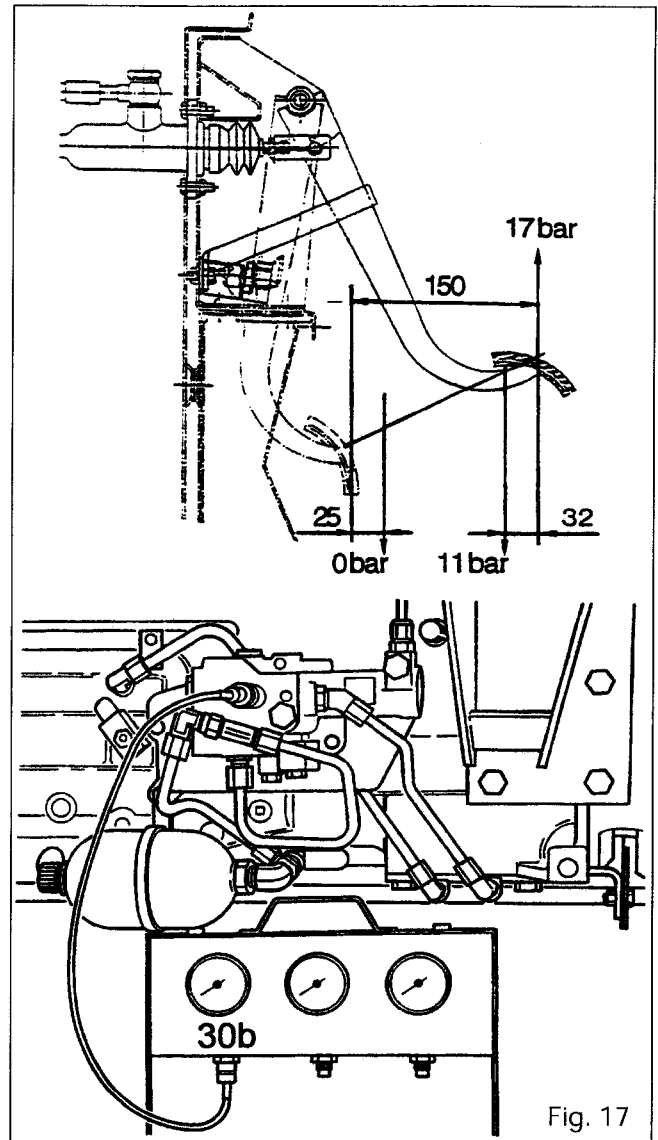

Fig. 17
- Connect a pressure gauge to the diagnostic connector of the clutch valve located on the right-hand side of the gearbox (Figures 17 and 20) to check **P24**.